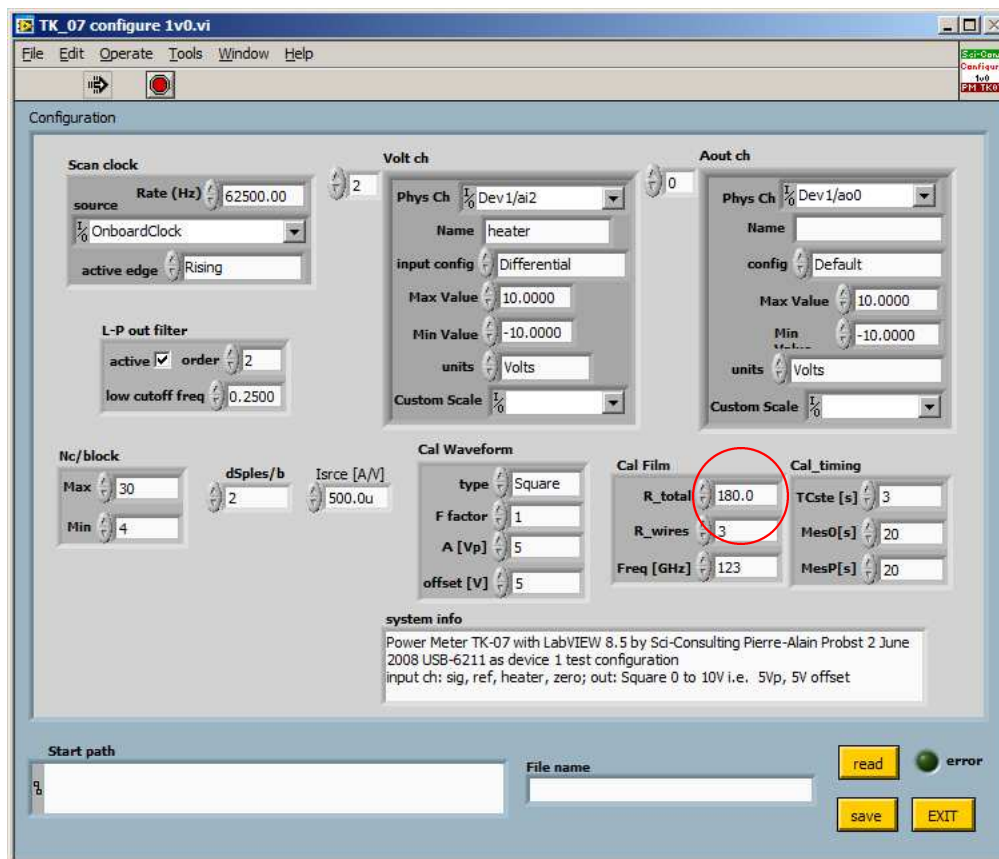

Figure 2.5: Support software configuration, with the film resistance option circled.
4. From the menu button click on Initialize. Doing this with no file name specified causes the configuration window to pop up as shown in Figure 2.5. The configuration file includes pre-calculated values of resistances, voltages and timings for the system.
5. Adjust the value of film resistance, labelled  $R_{total}$  (indicated by a red circle in Figure 2.5), to match the measured value,  $R_{film}$ . If measurements will typically be made at one signal frequency, this can be saved in the configuration file (as Freq [GHz]) to avoid having to re-enter it whenever the software is started.